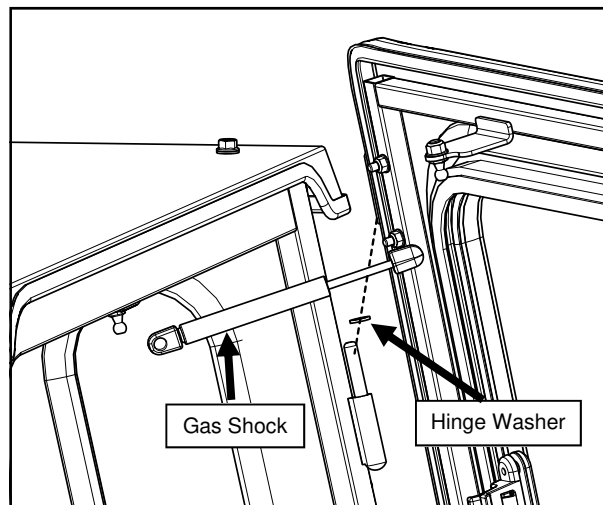

Fig. 18.1 (Door Installation)
18.1 Grease the hinge sleeves and brass hinge washers and re-install the doors into their respective hinge pins located on the side frames. See Fig. 18.1. For ease of installation, the top hinge sleeves and pins are longer than the bottom hinges and can be started first.